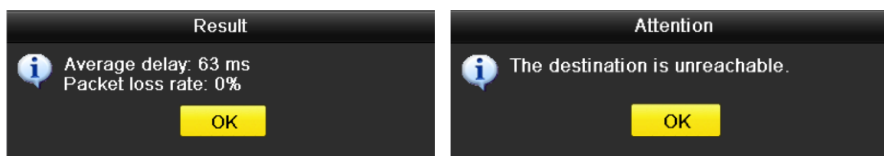

Figure 11-28 Testing Result of Network Delay and Packet Loss
Step 4 Click **Test** button to start testing network delay and packet loss. The testing result pops up on the window. If the testing is failed, the error message box will pop up as well. Refer to Figure 11-28.